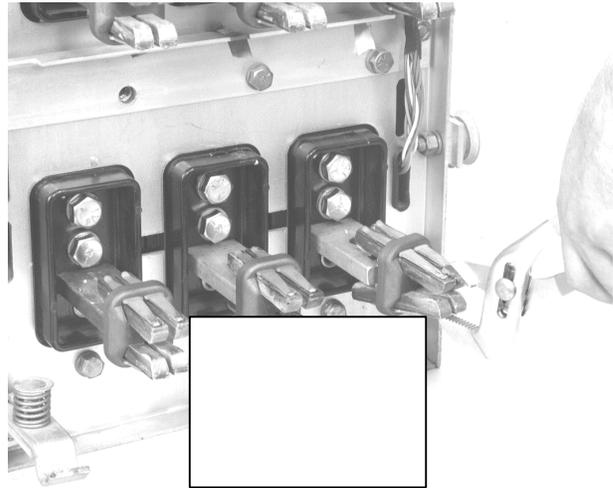

Figure 2. Removal of the load-side draw-out fingers from a DB-25 breaker.
1. On a draw-out breaker, remove the load-side draw-out contact fingers. Use a pair of pliers to squeeze the fingers and release them from the load terminals, as shown in Figure 2.